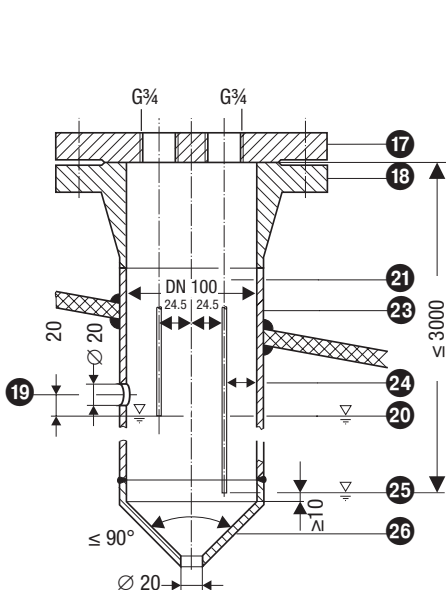

Fig. 17 Protection tube (provided on site) if electrode is used as internal water level-limiter combined with water level control or low water level alarm
- **One** level electrode NRG 1...-50 can be installed together with one GESTRA level electrode, one level switch or transmitter for water level control or low level alarm in one single protection tube or level pot (inside diameter 100 mm). **Fig. 17**. If the electrode NRG 1...-50 is installed inside the vessel, it must be at least 40 mm away from the upper vent hole.